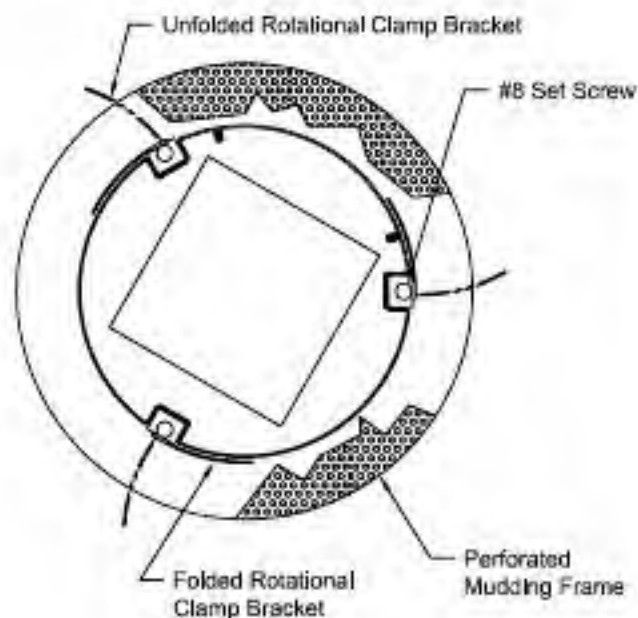
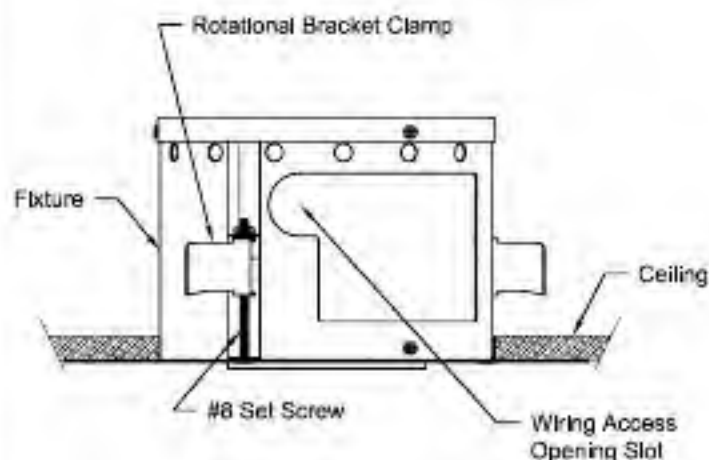
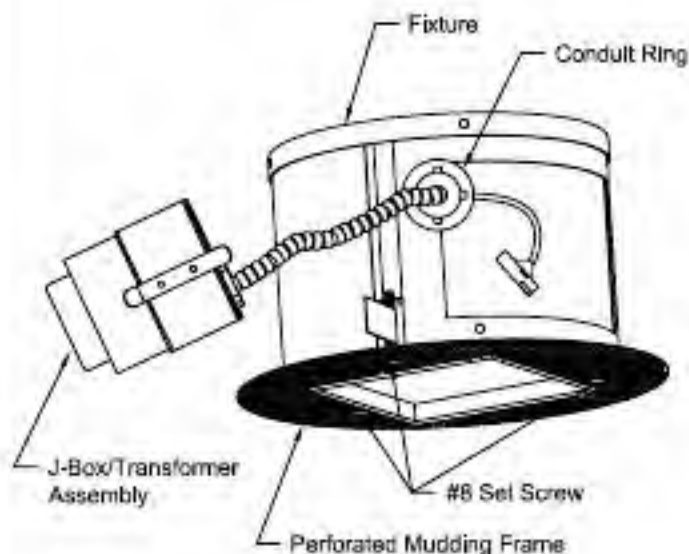

Figure 4
Figure 5
Figure 6
2. Fold three (3) Rotational Clamp Brackets tight against Fixture (See Fig. 4) making sure Brackets are in upper most (highest) threaded position (See Fig. 5) to accommodate largest ceiling thickness.
4. OPTIONAL: Retain orientation by installing two (2) or three (3) drywall/zip screws into outer perimeter of Perforated Mudding Frame.
5. Holding Fixture firm to ceiling surface, drive clockwise the three (3) #8 x 3" Set Screws (See Fig. 5) located on the underside of Perforated Mudding Frame (See Fig. 6) to rotate and lock the Rotational Clamp Brackets to the ceiling. DO NOT overtighten the Screws or Rotational Clamp Brackets. (Overtightening may crack ceiling material.)
6. Reach Inside and through Fixture Wiring Access Opening and locate Lamp Socket, Flex Cable, J-Box/Transformer Assembly. See Fig. 6.
7. Pull Lamp Socket and Lamp Wiring Into Inside of Fixture. See Fig. 6.
8. Slide Conduit Ring (See Fig. 6) into Slot (See Fig. 5) in Wiring Access Opening.